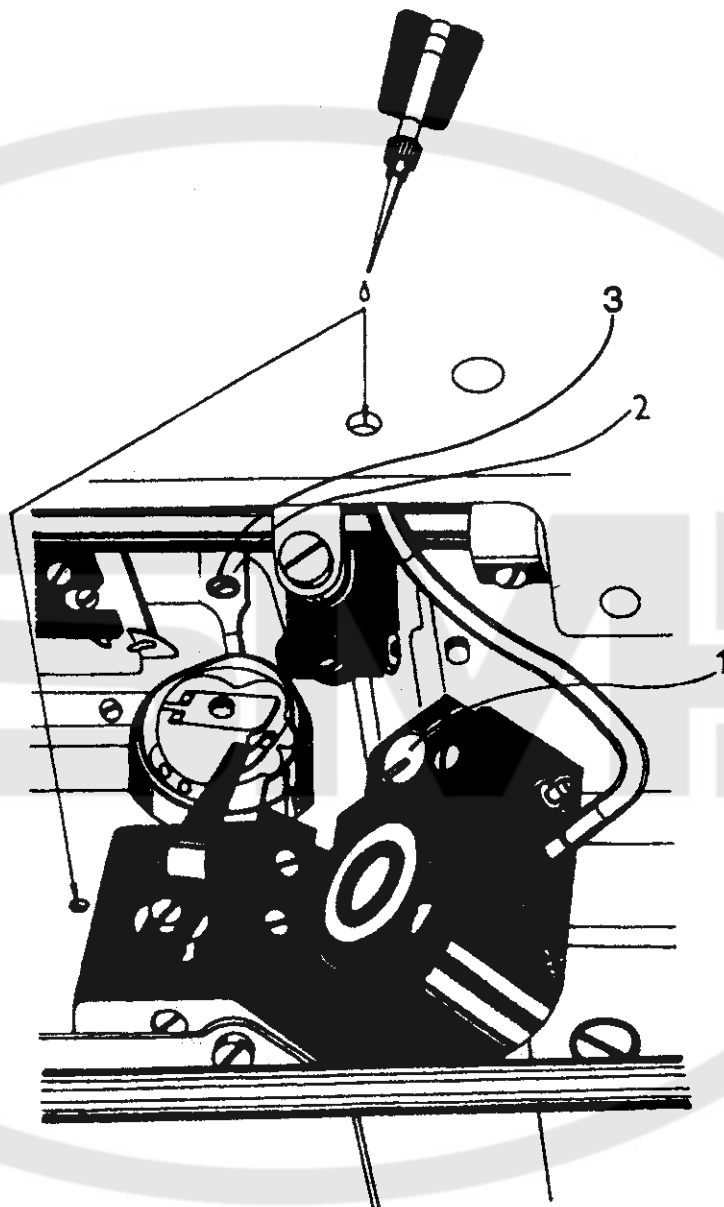

Fig. 2
6. To adjust hook lubrication (Fig. 2)
10. To adjust the hook holder (Fig. 2)